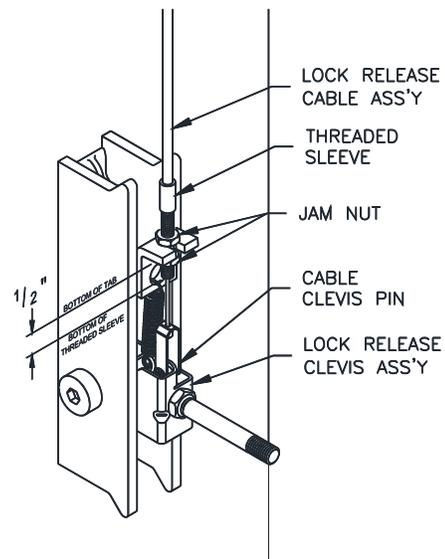

Fig. 13 – Power Column Lock Assembly
- 30) Attach Mechanical Lock Release Cable Assembly to Power Column Lock Release Clevis using the 3/16" diameter x 1/2" long pin and (2) "C" clip retainers, **Fig. 13**.
- 31) Insert threaded sleeve portion of cable assembly in slot located on tab above locking pawl, **Fig. 13**. One jam nut should be located on each side of tab. Position threaded sleeve with 1/2" of thread below tab as indicated in **Fig. 13** and tighten jam nuts.